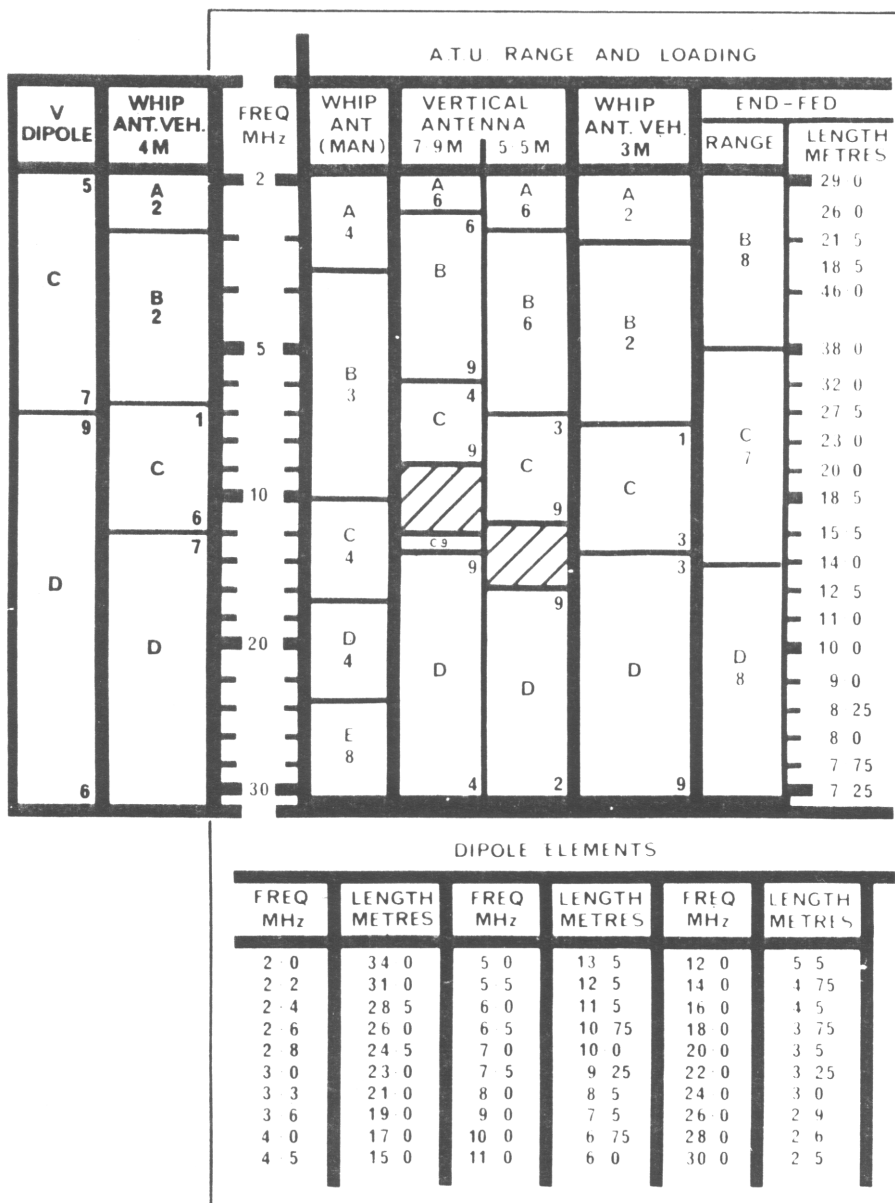
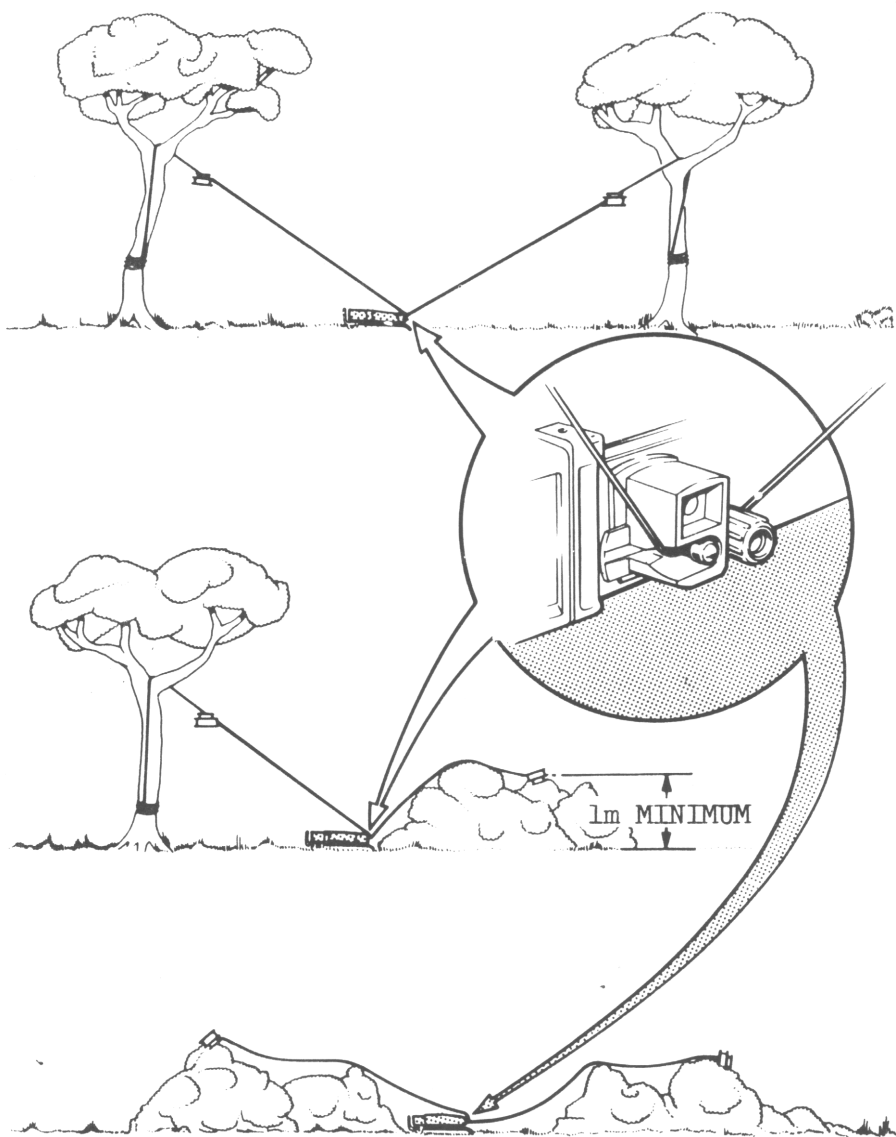
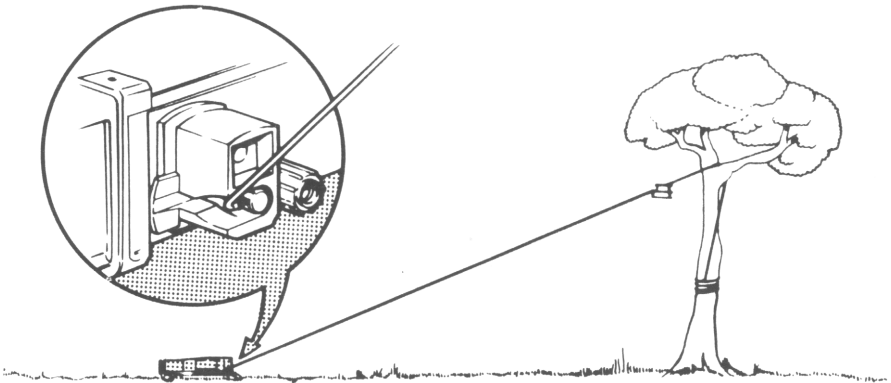

Fig.7 ATU Range and Loading and Dipole Elements Tables
Fig.13 Examples of other Dipole Configurations
Fig.14 Example of End-Fed Antenna
2.7 The settings of the RANGE and LOAD switches on the RT320 antenna tuning unit (ATU) are determined by the operating frequency and the type of antenna (various configurations are described in para. 2.15 to 2.20), as shown in the ATU RANGE AND LOADING TABLE (Fig.7, page 24) on the equipment case. Switch settings for V dipole and vehicle 4m whip antennas are not given in this table and form the subject of a separate table, also illustrated in Fig.7. The method of using the tables is as follows:-
2.19 Examples of other dipole configurations are given in Fig.13. In these examples the dipole centre junction and antenna feeder cable are not used, the coaxial link between the INT TUNER and T/R sockets remains fitted and the wire antenna ends are connected directly to the RT320 antenna and earth terminals as shown. The lengths of the dipole elements are specified in the table on the radio set (also shown in Fig.7, page 24). The equipment is set up as shown in Fig.6 (pages 22 and 23), using the RANGE and LOAD switch settings given for the V dipole in Fig.7 (page 24).
2.20 The end-fed antenna, an example of which is shown in Fig.14, uses one antenna wire connected to the RT320 antenna terminal and can be supported by a mast or a wall, instead of a tree. After setting the antenna length, as specified in the END-FED column of the ATU RANGE AND LOADING table, Fig.7 (page 24), the equipment is set up as shown in Fig.6 (pages 22 and 23) using the RANGE and LOAD switch settings given in the table. The antenna counterpoise must be used with this antenna (see para.2.13).